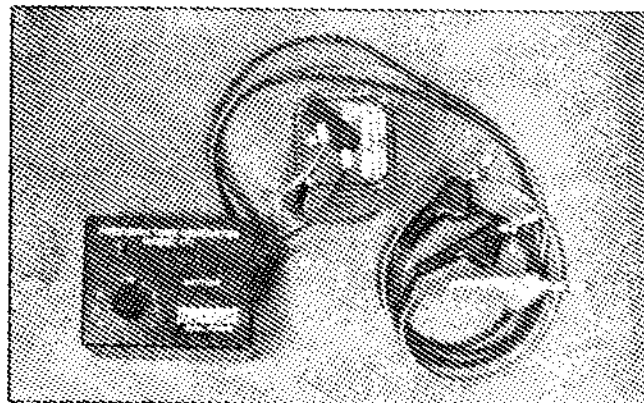

Figure 7 Battery Replacement
3.01 The battery must be tested before using the Model 177. Turn the selector switch to any position 1 to 10. A glowing red LED indicates acceptable battery condition; if it does not, replace the battery. See figure 7.
4.01 Battery replacement is the only field maintenance required. To replace the battery, unsnap the strap that retains the tone generator in the carrying case. Remove the tone generator and battery from the case. Unscrew the battery leads and replace with the new battery. Connect red lead to + (positive) terminal and black lead to - (negative) terminal. Replace in case and resnap retaining straps. See figure 7.